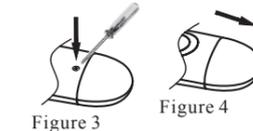

Figure 3
2. Use a screwdriver to remove the battery cover (See Figure 3).